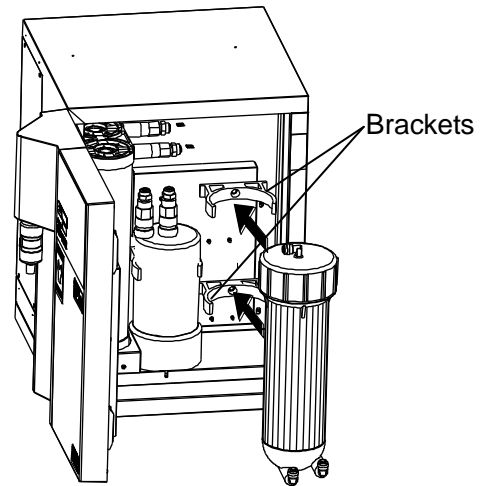

Figure 7
- (1) Place RO membrane into designated brackets as shown in Figure 7.
- (2) Push tube marked, "RO IN" evenly into the upper coupler on RO membrane.
- (3) Push tube marked, "RO Left" evenly into lower left coupler on RO membrane.
- (4) Push tube marked, "RO Right" evenly into lower right coupler on RO membrane.